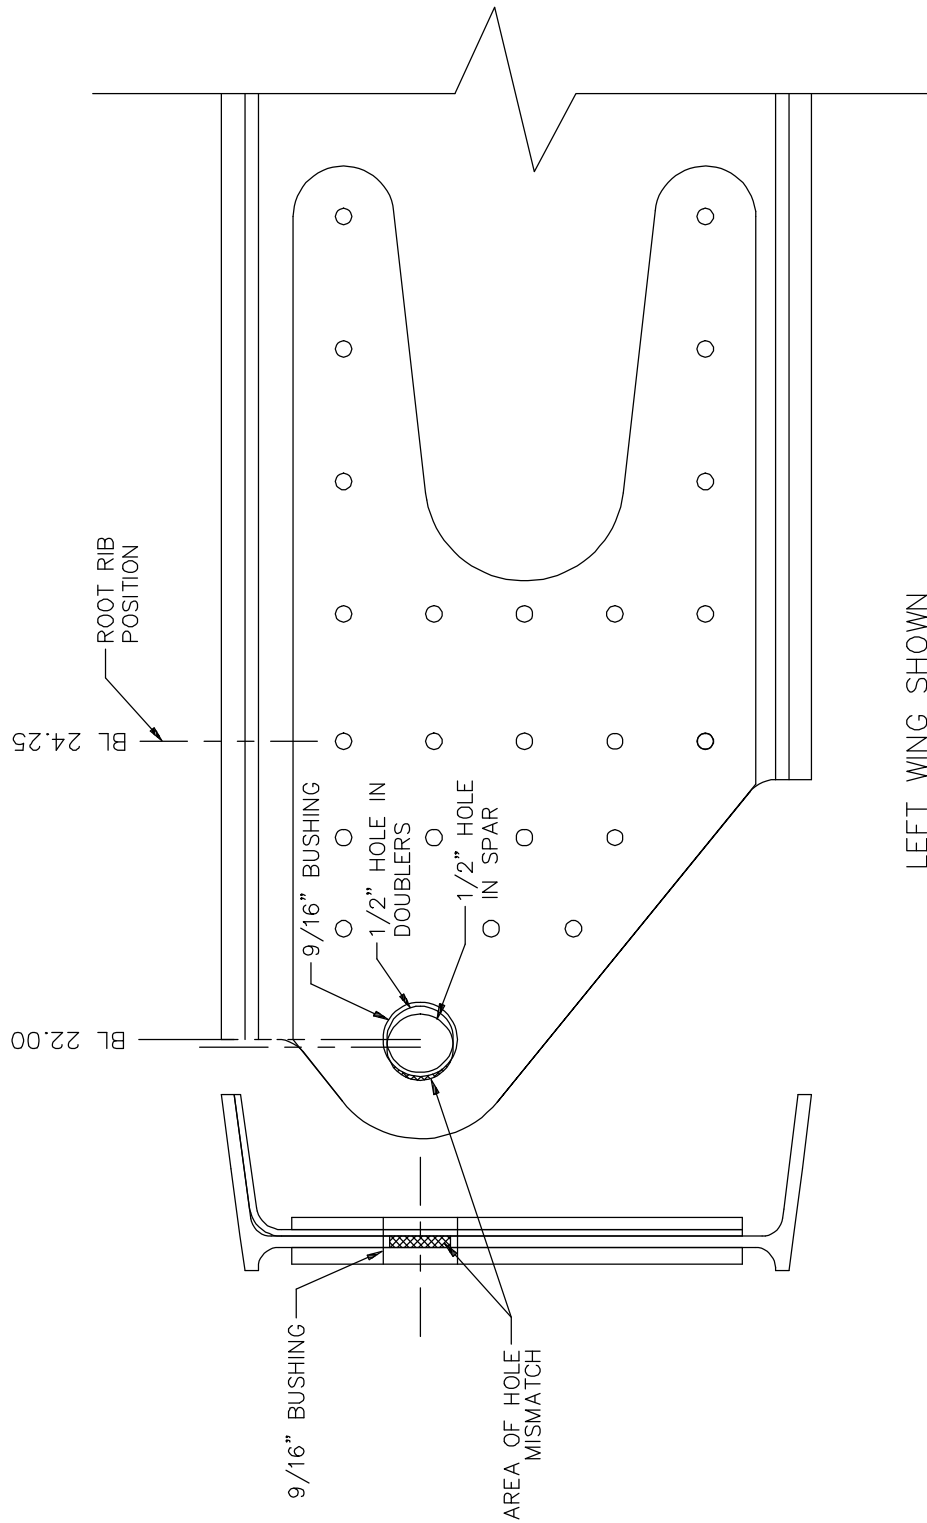

Figure 1: Hole Misalignment in Aft Spar
- C) Check the alignment of the wing attach holes in the doublers with the wing attach hole in the spar. The hole in the spar will be offset in the spanwise direction from the holes in the doublers, as shown in Figure 1. Use a small round file to carefully file the **outboard side** of the hole in the **spar** until it almost matches the holes in the doublers. The idea here is to remove just enough of the hole in the spar so that a straight reamer can be run through the hole with minimal resistance. Try not to touch the holes in the doublers with the file, but don't worry if you do; any file marks will be removed when the holes are reamed to final size.